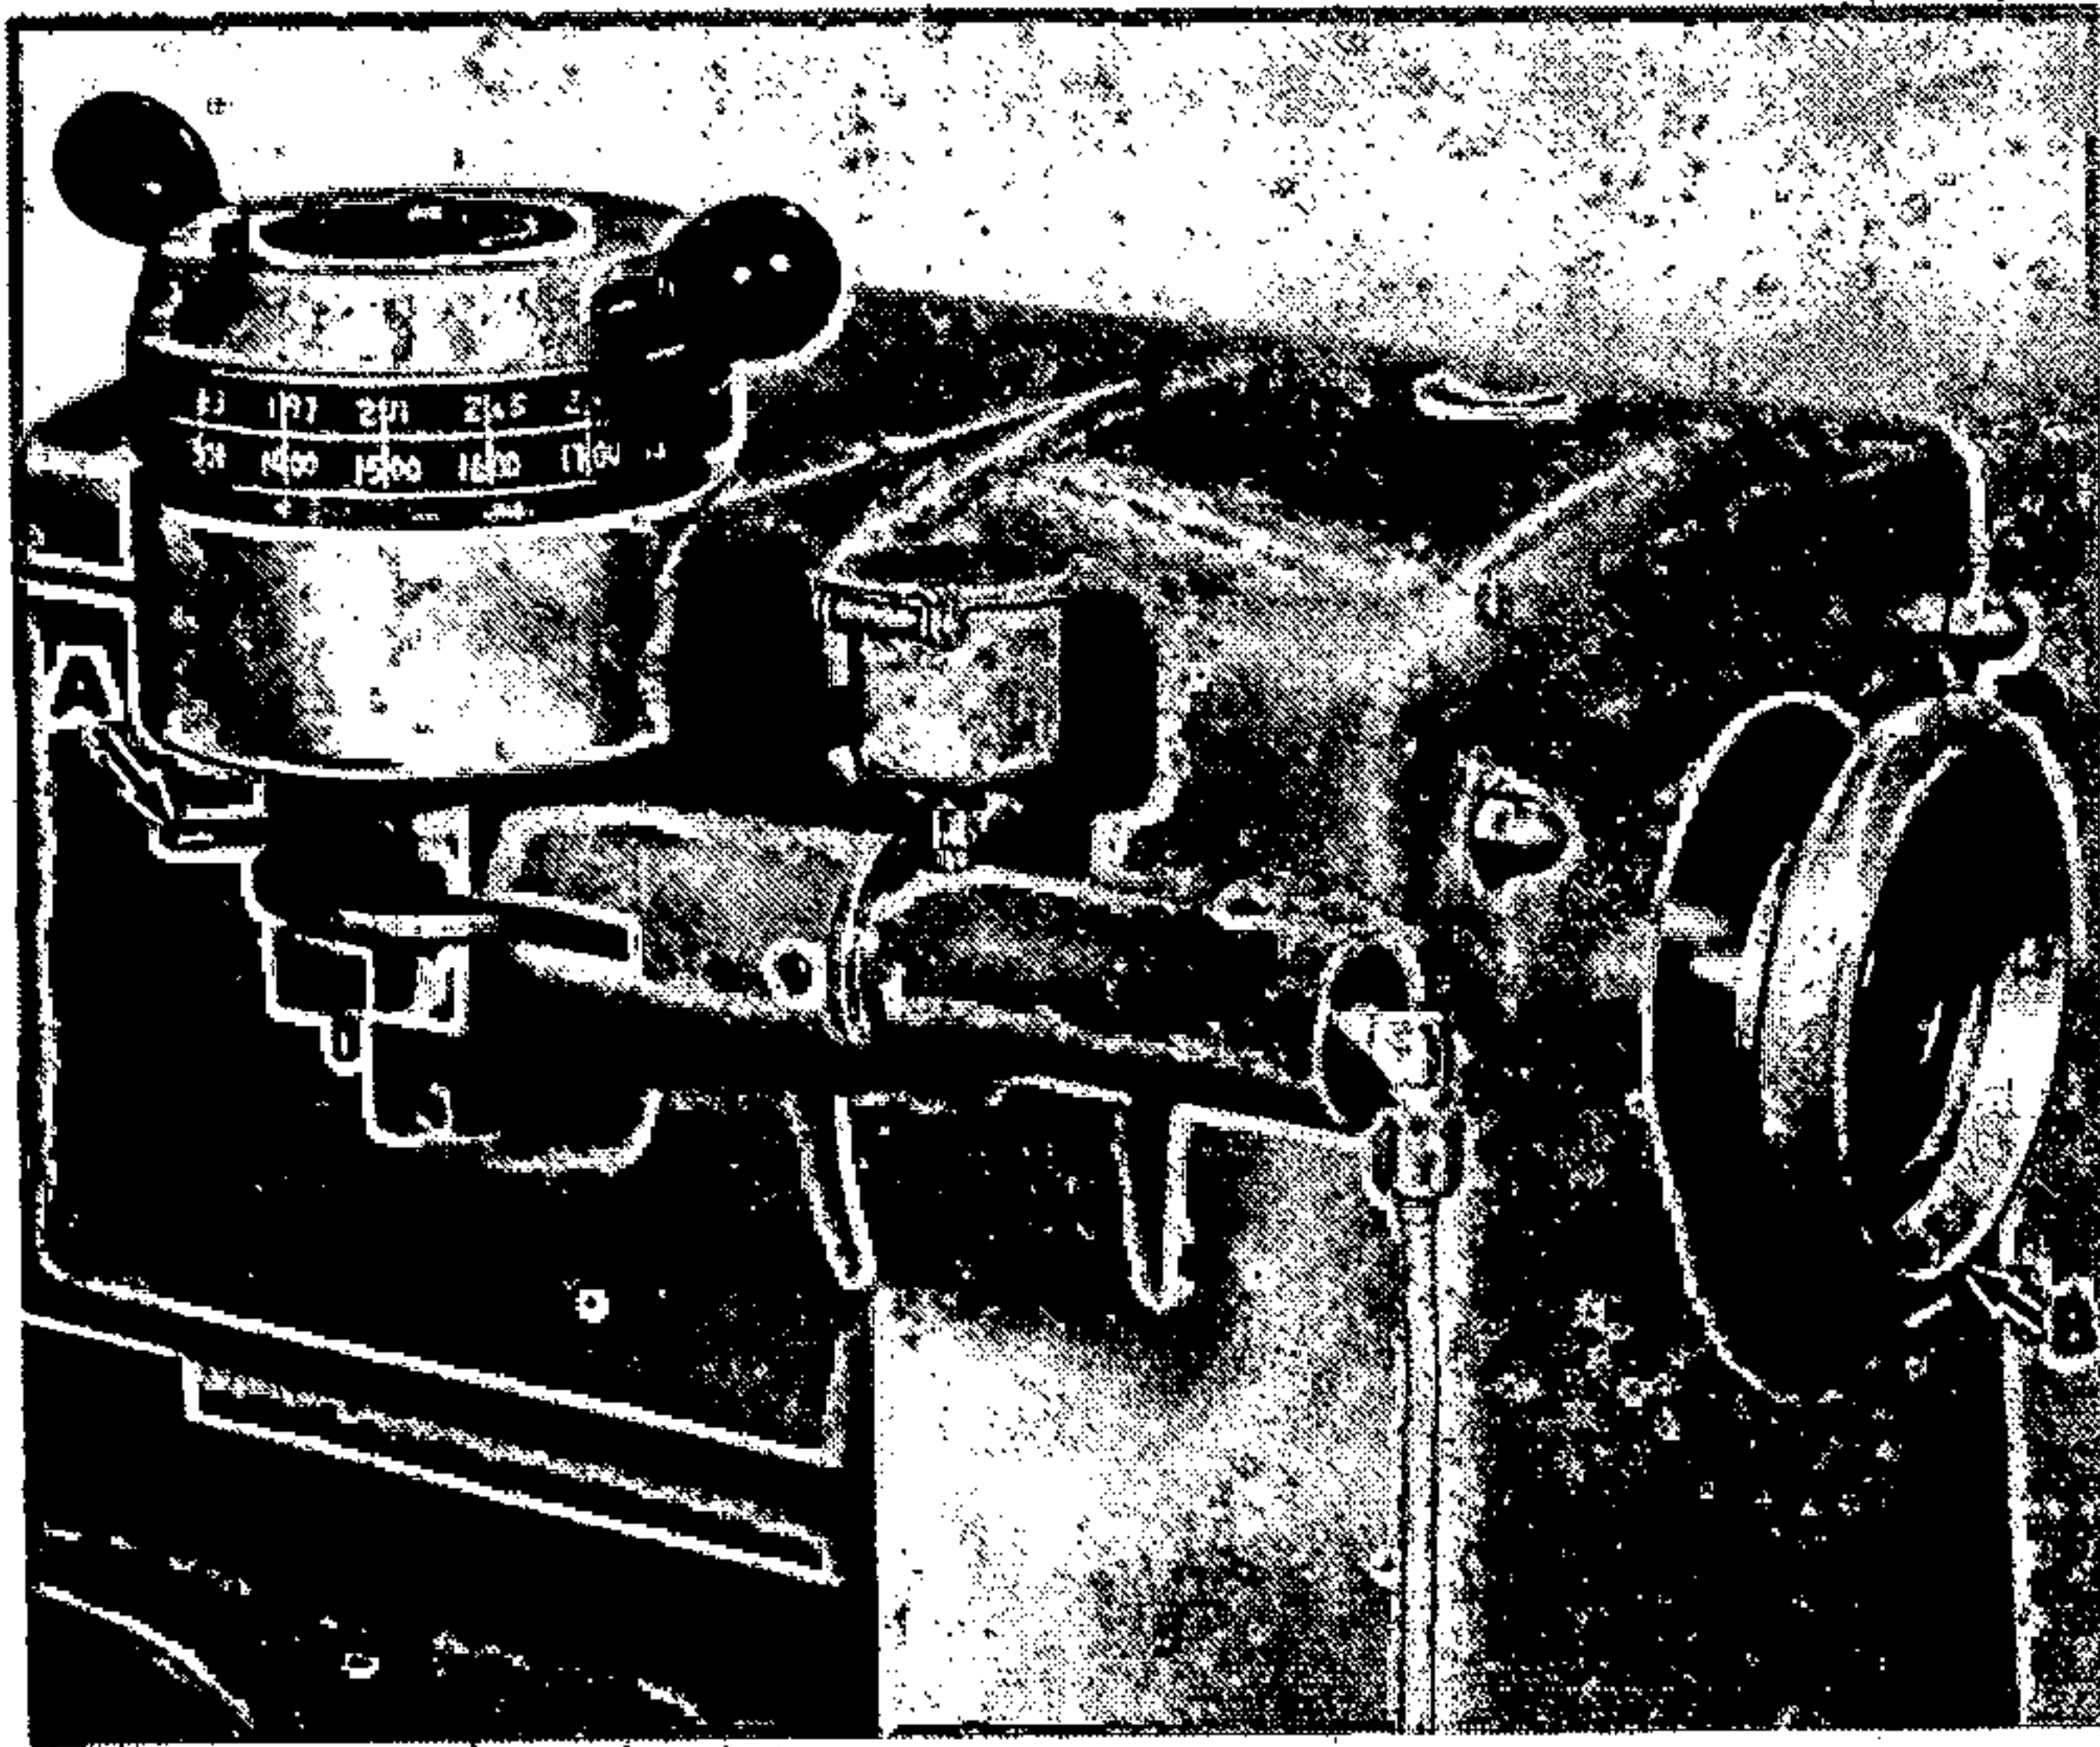
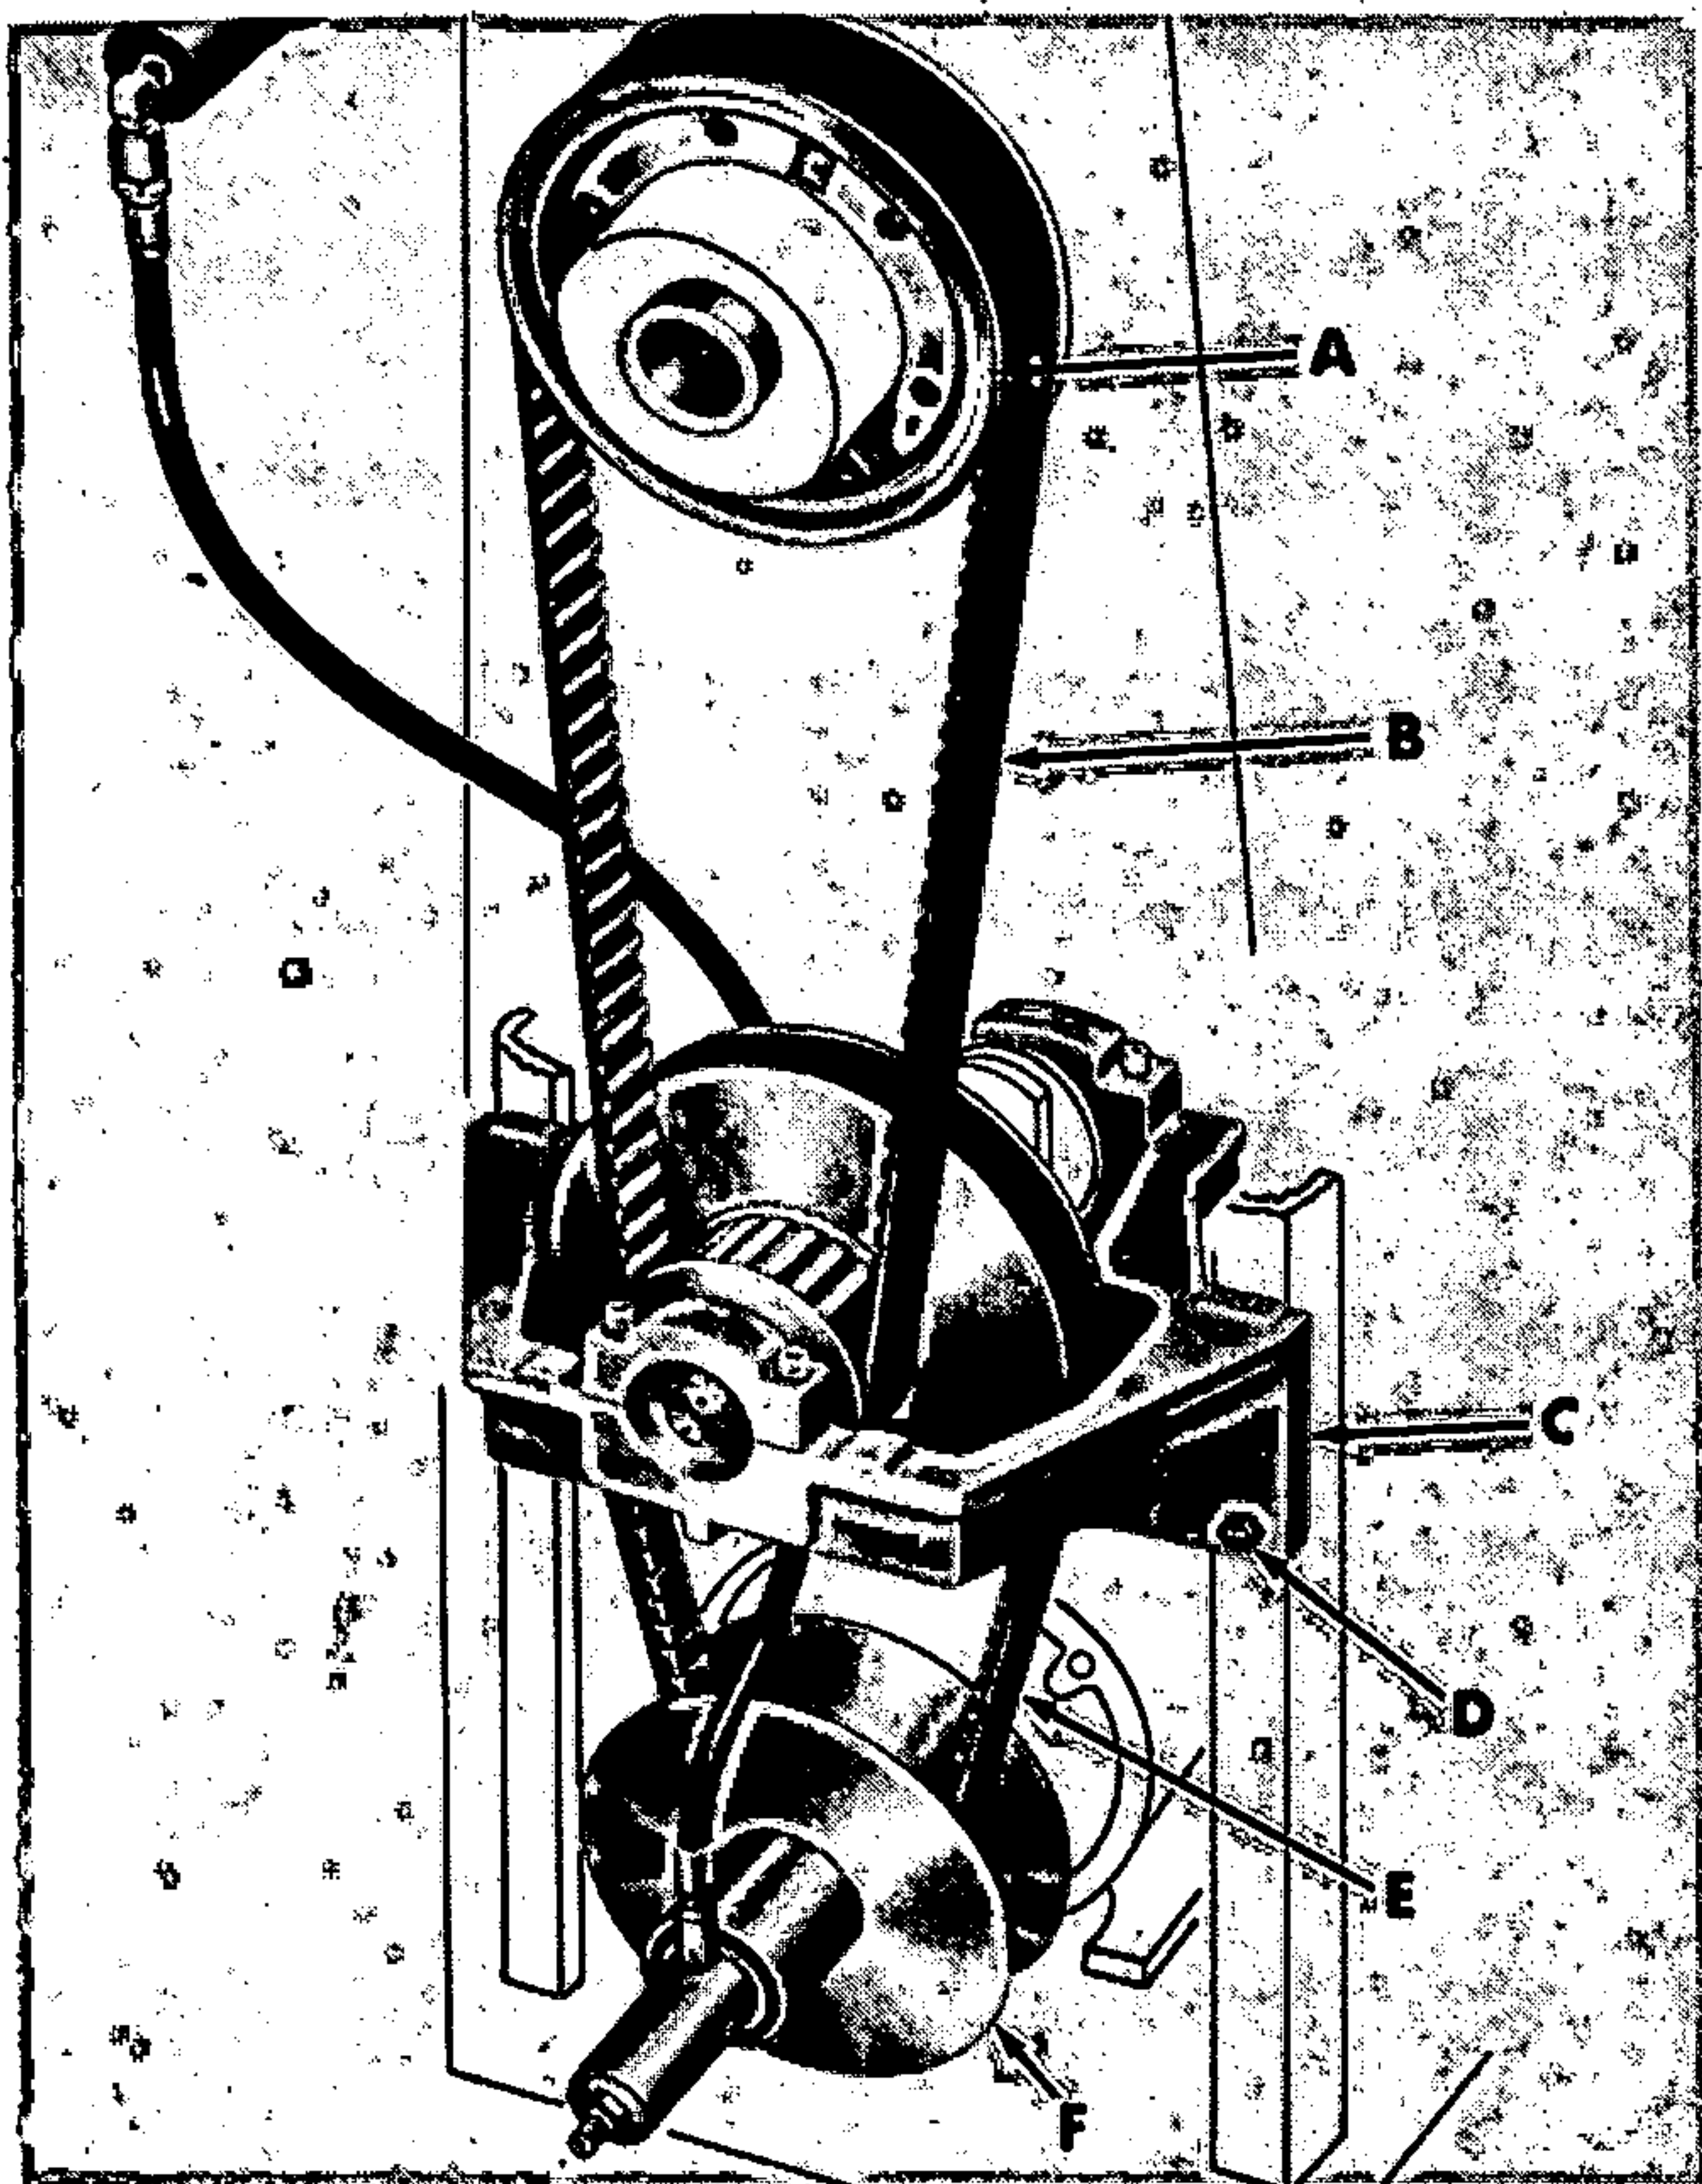
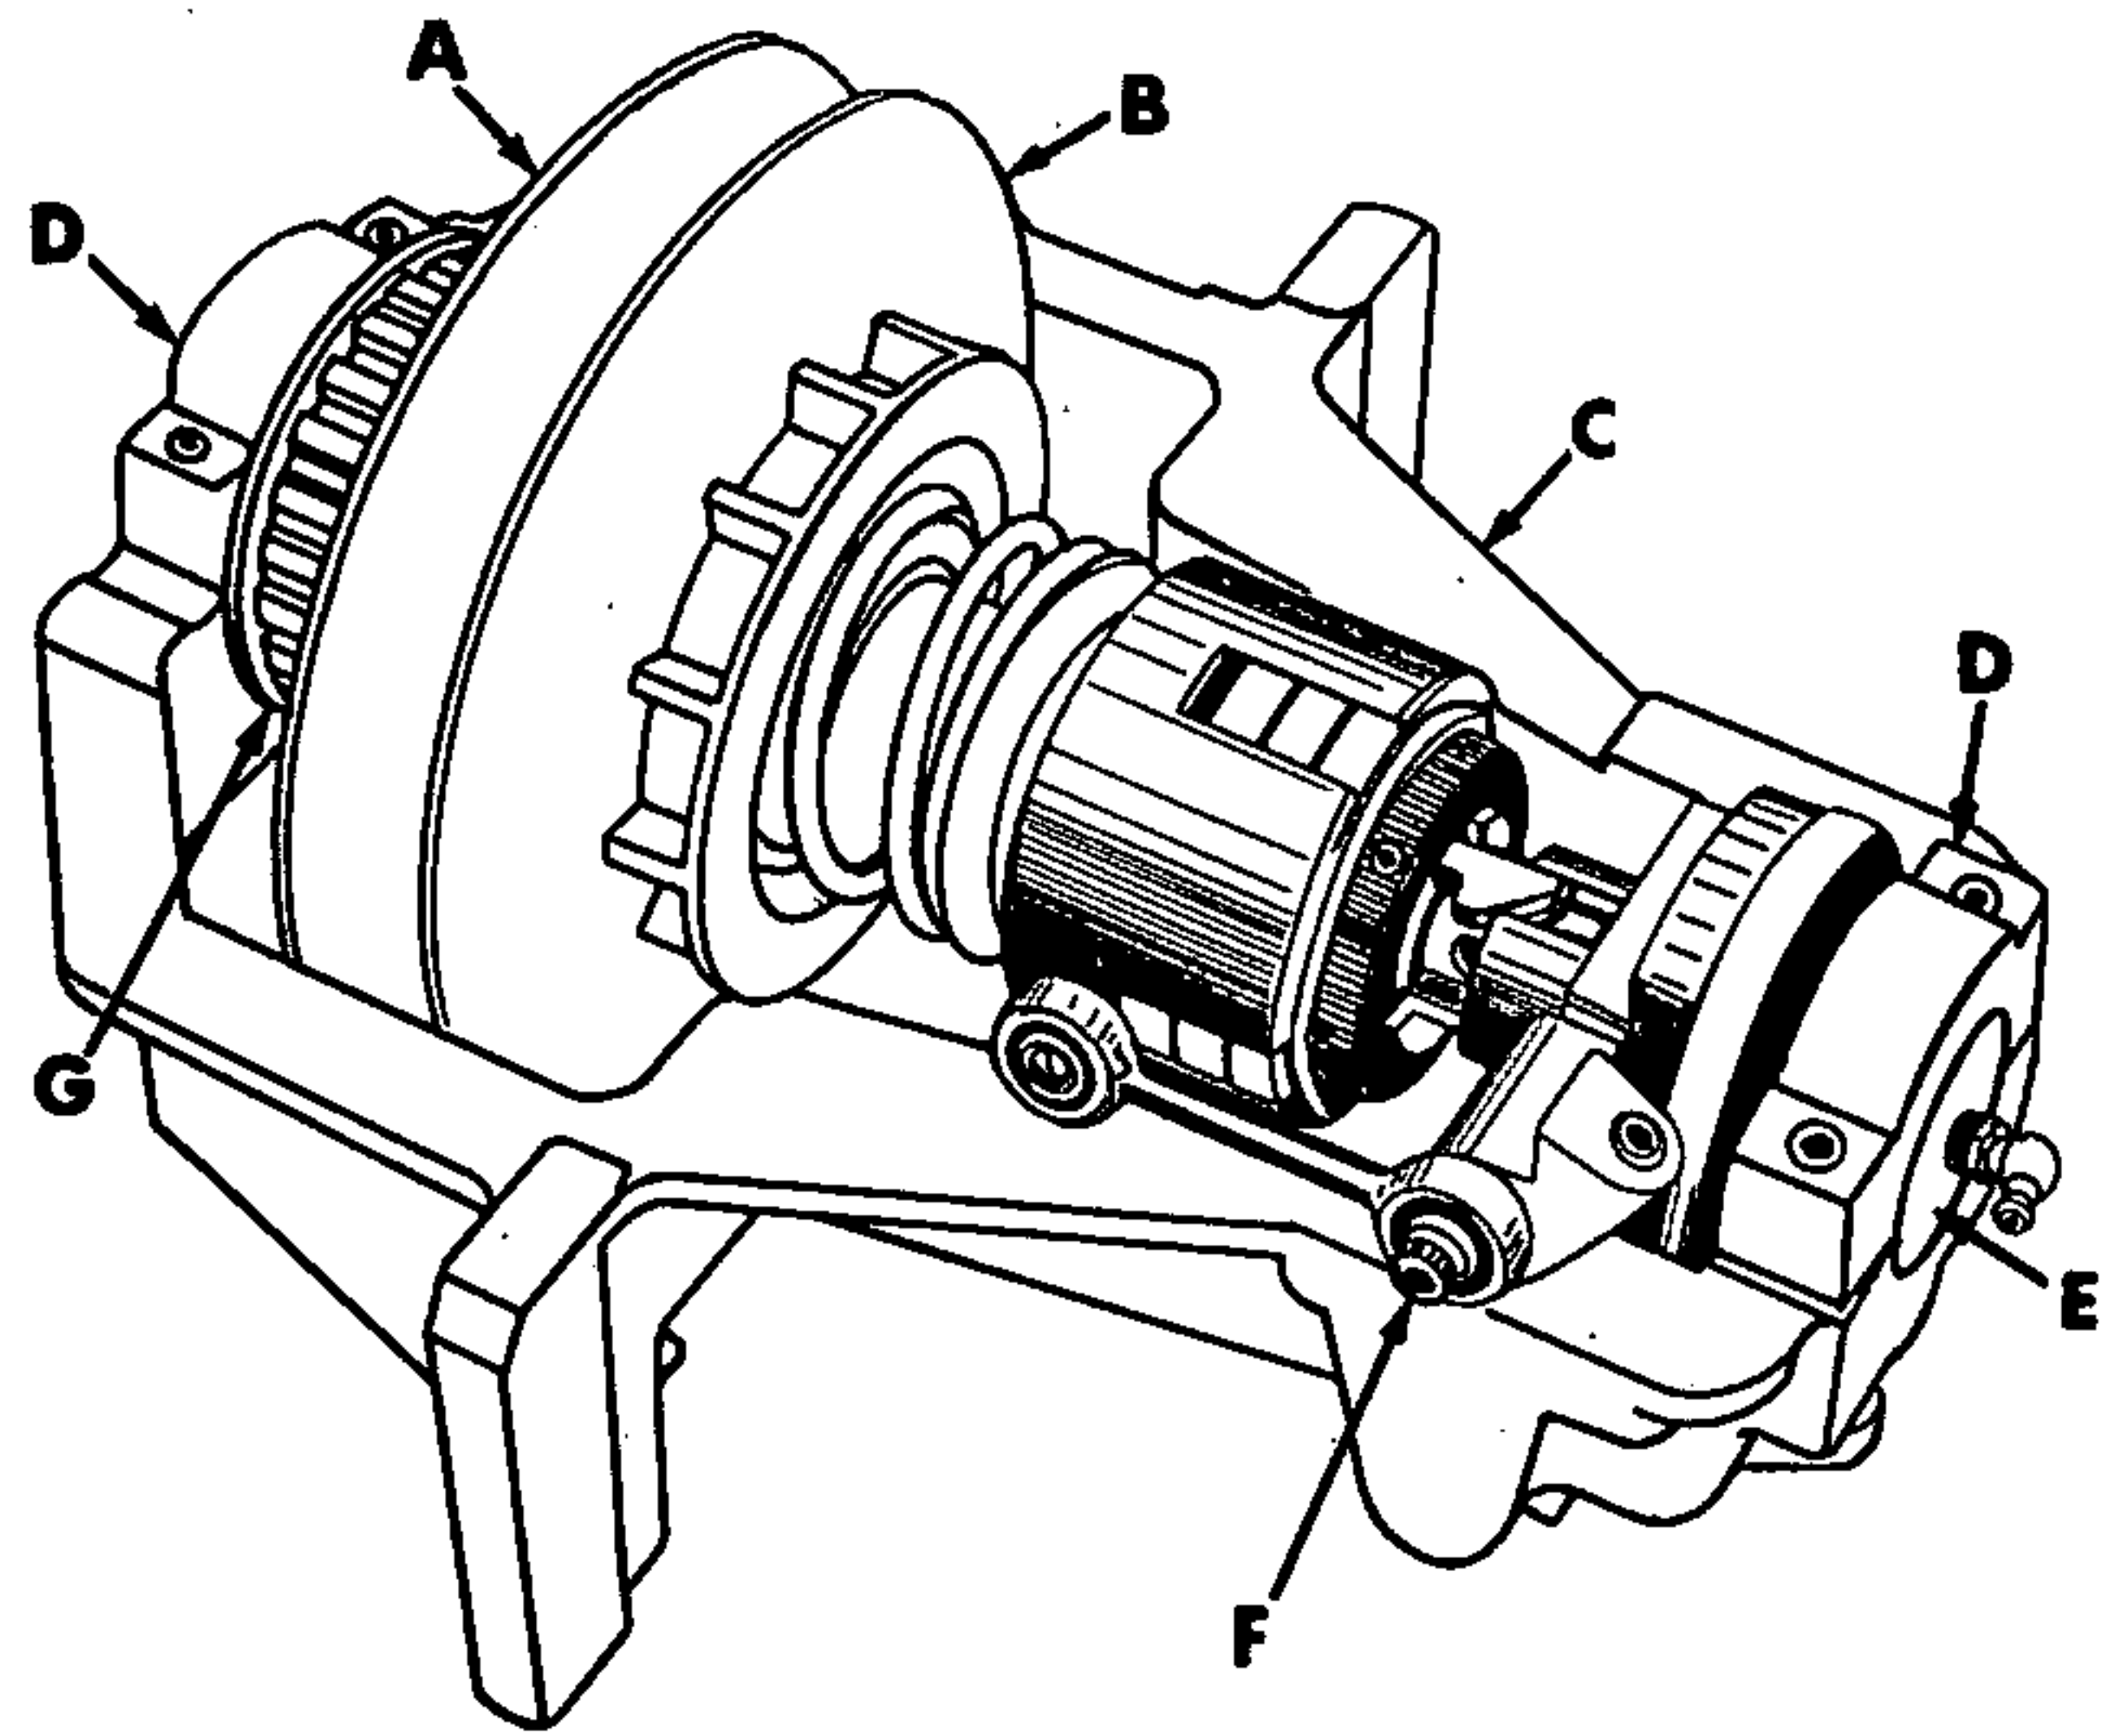

Figure 21
Figure 22
Figure 23
2. Remove spindle handwheel (B) (fig. 21), belt guards and front cover.
3. Turn variable dial back to lowest speed and lock dial in place with pin (A).
4. Holding variable dial against low speed stop, pull on outer sheave of lower variable motor pulley (F) (fig. 22) until variable belt (E) is loose.
5. Thru front cover opening, remove 5/16"-18 hex cap screw (F) (fig. 23) and spacer from clutch linkage.
6. Remove four hex nuts (D) (fig. 22). Raise countershaft (C) slightly and slip timing belt (B) off spindle pulley (A). Lower countershaft and slip variable belt (E) off variable motor pulley (F).
8. Remove bearing caps (D) (fig. 23), snap rings and countershaft spindle (E) from bracket (C).
11. Install spindle in countershaft bracket and secure in place with snap rings and bearing caps (D). **IMPORTANT:** Make sure timing belt is in place before installing bearing caps.
13. Position the countershaft (C) (fig. 22) so variable belt (E) can be slipped on motor pulley (F), then raise countershaft so timing belt (B) can be slipped on spindle pulley (A).
14. Place countershaft assembly on the four mounting studs (D), then snug up the four hex nuts. Refer to Tensioning Timing Belt steps 2-5.
16. Remove lock pin (A, fig. 21) from variable cam housing.
4. Pull on outer sheave of lower variable motor pulley (F) (fig. 22) until variable belt (E) is loose.
9. Remove timing belt from countershaft pulley (G).
10. Place new timing belt on countershaft pulley (G).
11. Install spindle in countershaft bracket and secure in place with snap rings and bearing caps (D). **IMPORTANT:** Make sure variable belt is in place before installing bearing caps.
12. Position the countershaft (C) (fig. 22) so variable belt (E) can be slipped on motor pulley (F), then raise countershaft so timing belt (B) can be slipped on spindle pulley (A).
13. Place countershaft assembly on the four mounting studs (D), then snug up the four hex nuts. Refer to Tensioning Spindle Belt steps 2-5.
15. Remove lock pin (A, fig. 21) from variable cam housing.